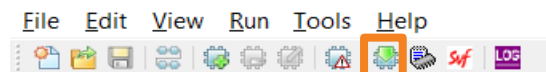

Figure 3.12. Programmer Menu Bar
4. Click the **Programming** icon from the menu bar as shown in Figure 3.12 to start programming.